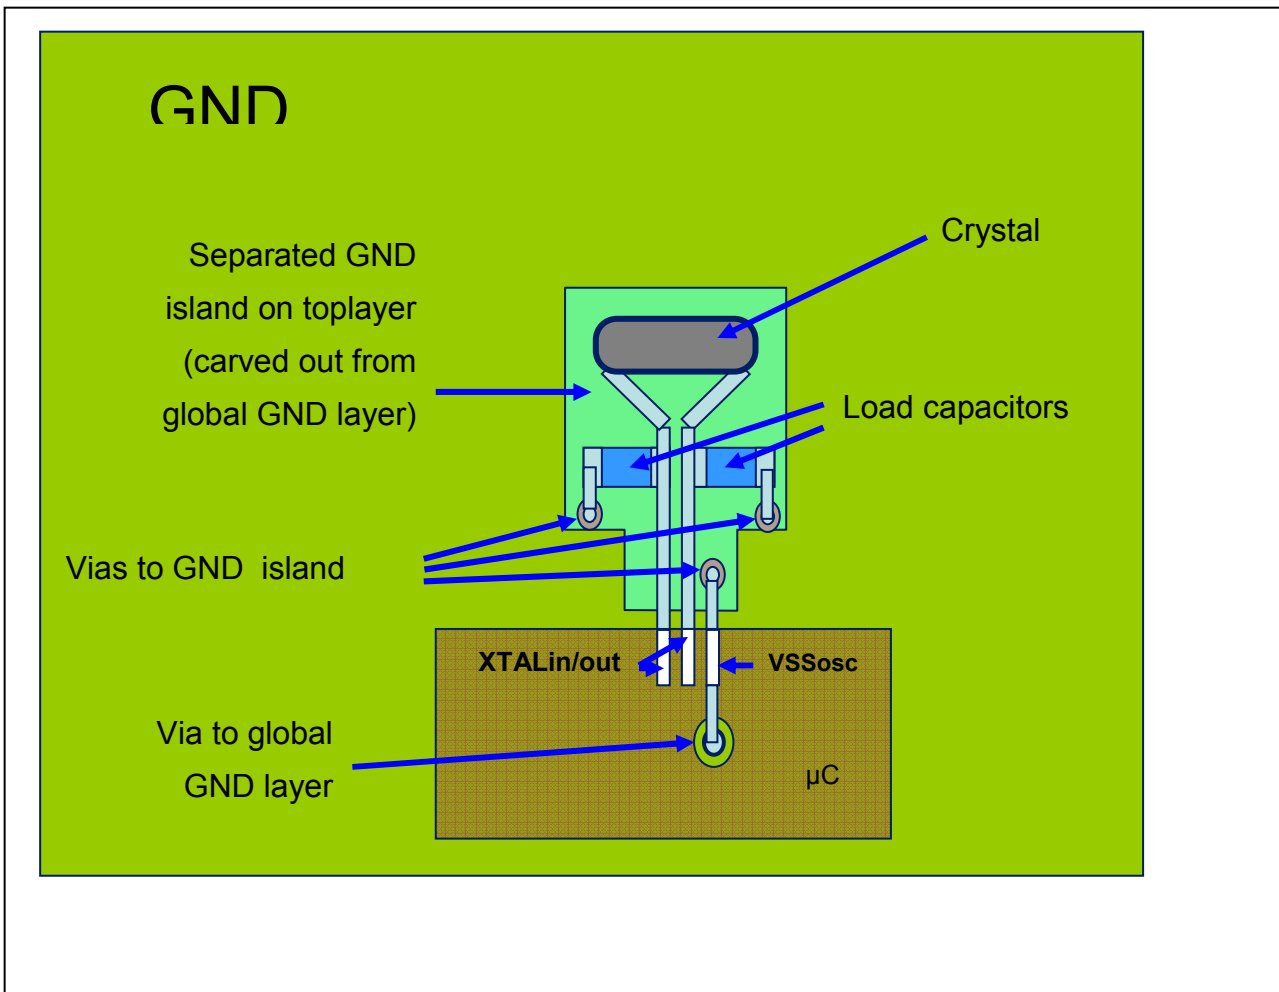

Figure 5 Layout Proposal Oscillator Circuit
1. Ground for OSC (104),
2. Ground for ADC0/1 (53),
- To reduce the radiation / coupling from oscillator circuit, a separated ground island (see Figure 5) on the GND layer should be made. This ground island can be connected at one point to the GND layer. This helps to keep noise generated by the oscillator circuit locally on this separated island. The ground connections of the load capacitors and VSSOSC should also be connected to this island. Traces for load capacitors and Xtal should be as short as possible.